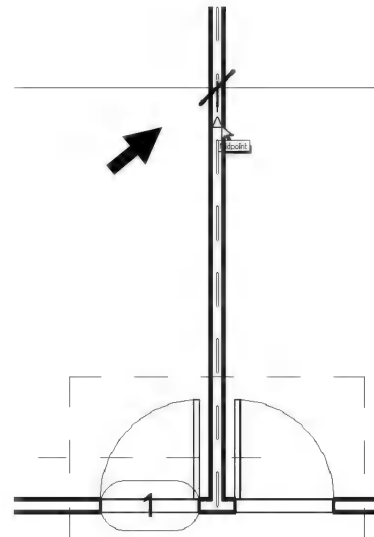

FIGURE 2-2.8 Copy – first point with midpoint symbol visible
- First pick*: midpoint/centerline of wall (see Figure 2-2.8);